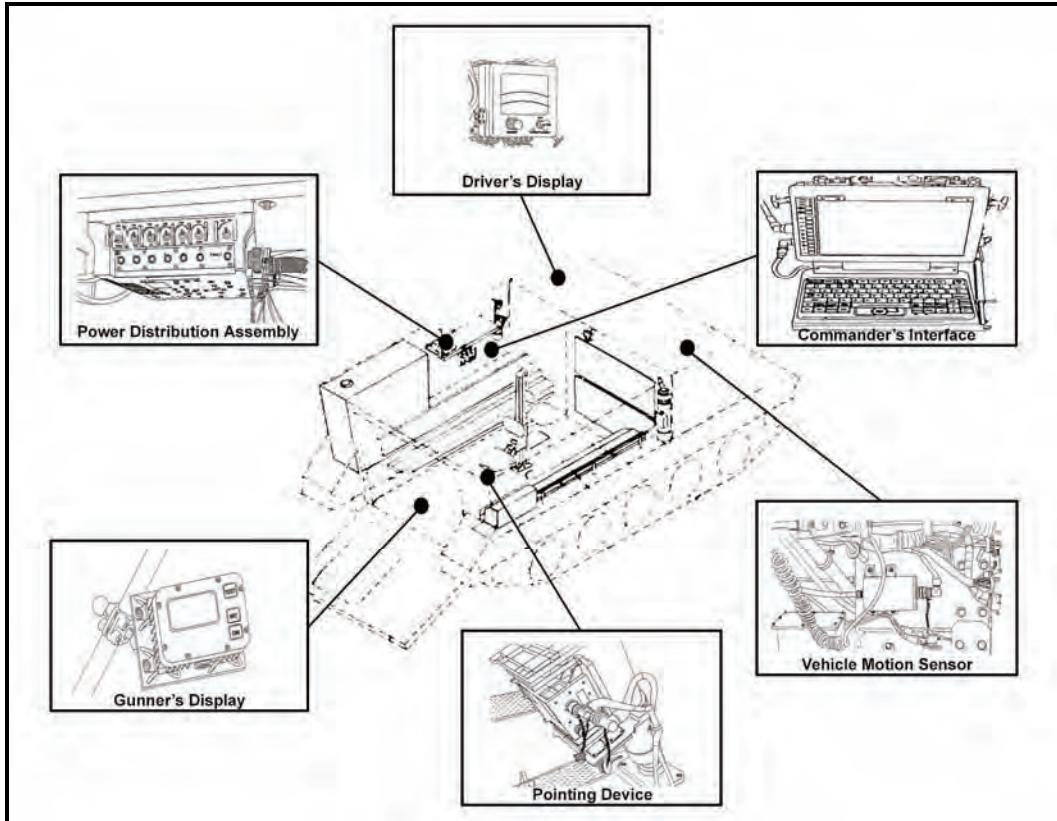

Figure 15-1. Mortar Fire Control System.
15-1. The MFCS is an automated fire control system designed to improve the command and control of mortar fires and the speed of employment, accuracy, and survivability of mortars. The commander's interface (CI) microprocessor, controlled by a software operating system, manages computer activities, performs computations, and controls the interface with peripheral and external devices. The CI operator enters data at the keypad and composes messages using the liquid crystal display (LCD). Completed messages are then transmitted digitally or by radio. Should the FDC become disabled, each mortar crew can compute its own fire missions if the FDC is configured as a gun/FDC. System accuracy is increased through the use of a Global Positioning System (GPS), an onboard azimuth reference for the gun, and digital MET updates. The MFCS (Figure 15-1) enables self-surveying mortars, digital call for fire exchange, and automated ballistic solutions.